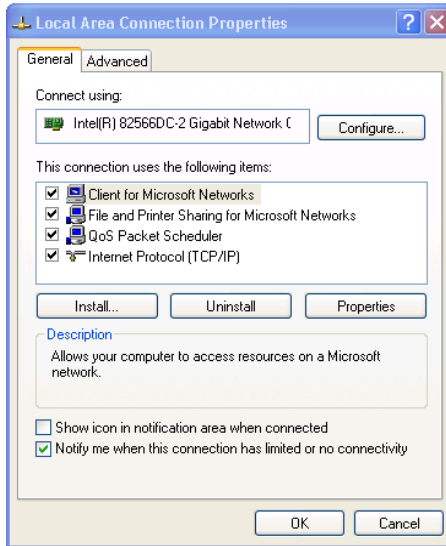

Figure 9: Local Area Connection Properties Window
5. Select **Internet Protocol (TCP/IP)** (see Figure 9).